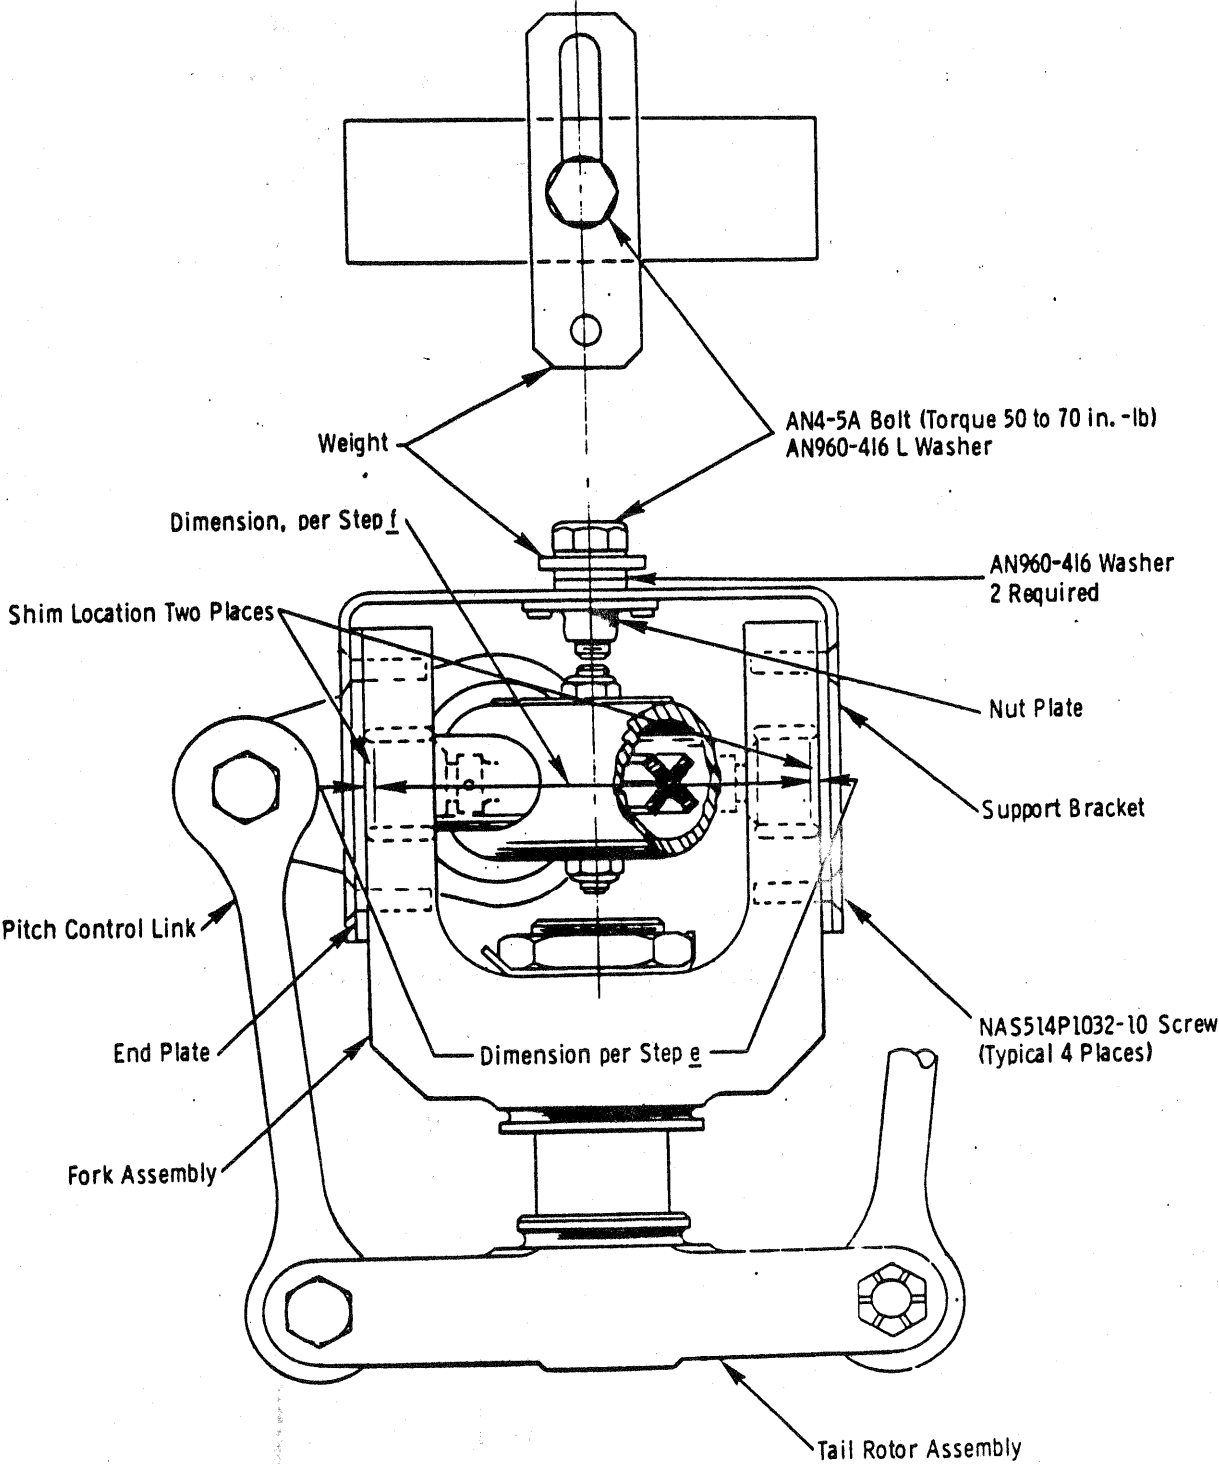

FIGURE 1. BALANCE WEIGHT INSTALLATION
e. Using micrometer, measure and record dimension across two flats of fork assembly. (See Figure 1)
- m. Position balancing weight support bracket over two end plates. (See Figure 1.)